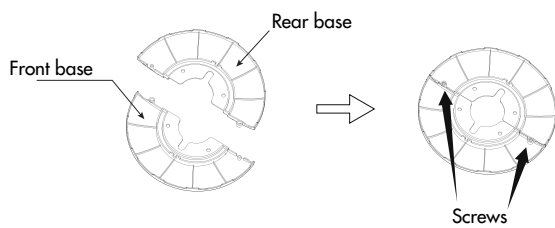

Fig.1
- Hook the front base and the rear base, fixing them with two screws (Fig.1)